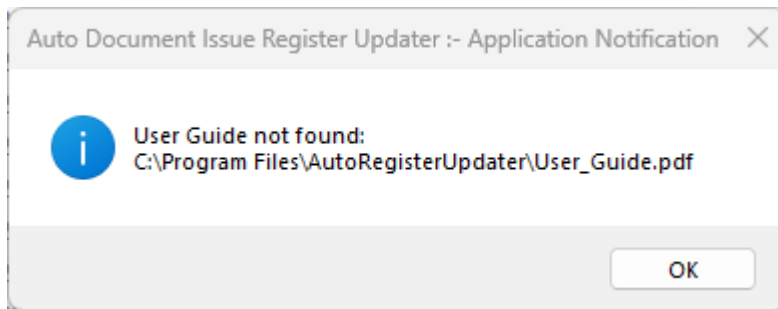

Figure 26
2. Restoring the User\_Guide.pdf will prevent the above dialog as shown in figure 26 from being displayed again.